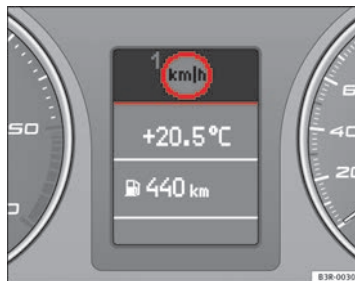

Fig. 56 Display: Speed warning function
exceeded by about 10 km/h. A warning symbol will also appear in the display ⇒ fig. 56.
The warning symbol  for speed limit warning 1 ⇒ fig. 56 will appear in the display if you exceed the pre-set speed. It goes out again if the speed is reduced below the set speed limit.
- Press the CHECK button and hold it down until the symbol ⇒ fig. 56 appears.